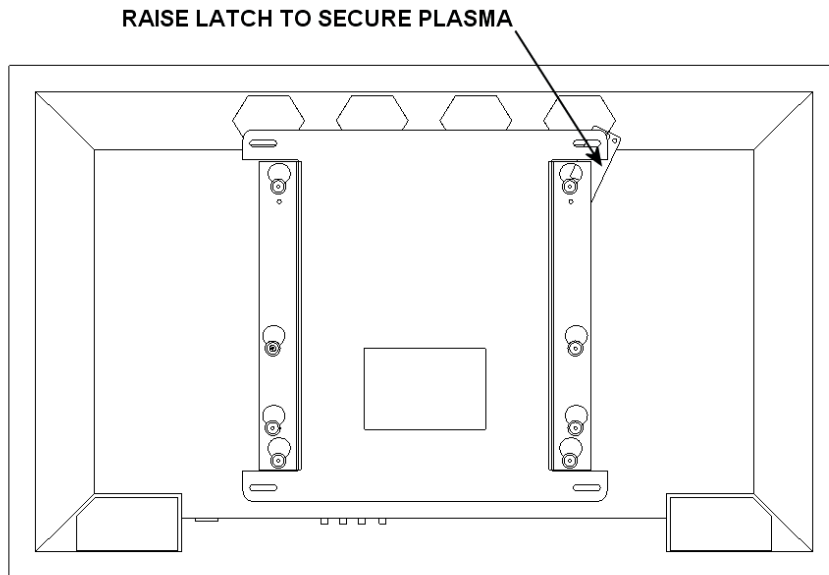

Figure 4
5. With the aid of another person, lift the plasma display up to the mount, align the mounting buttons on the plasma with the teardrop slots in the mount, and set the plasma into place (see Figure 4).
6. Position (raise) the flag to secure the plasma (see Figure 4).